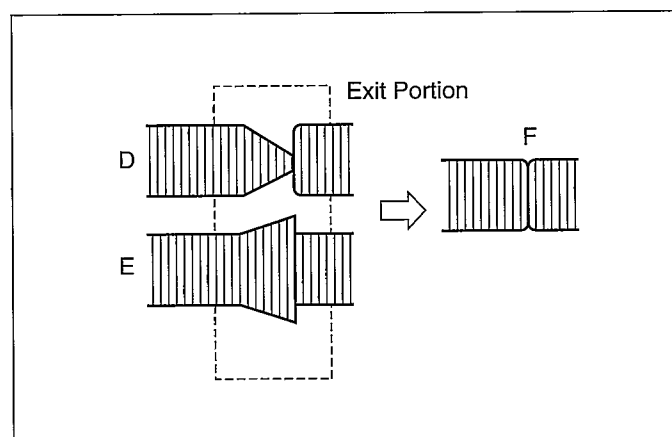

Fig. M8
- (5) If the RF envelope appears like "D" or "E" in Fig. M8, then adjustment of the tape guide post (P3: Exit) is necessary.
- (6) Adjust the tape guide post (P3) in the same manner as the P2 post so that the exit portion becomes flat as shown in Fig. M8 "F".